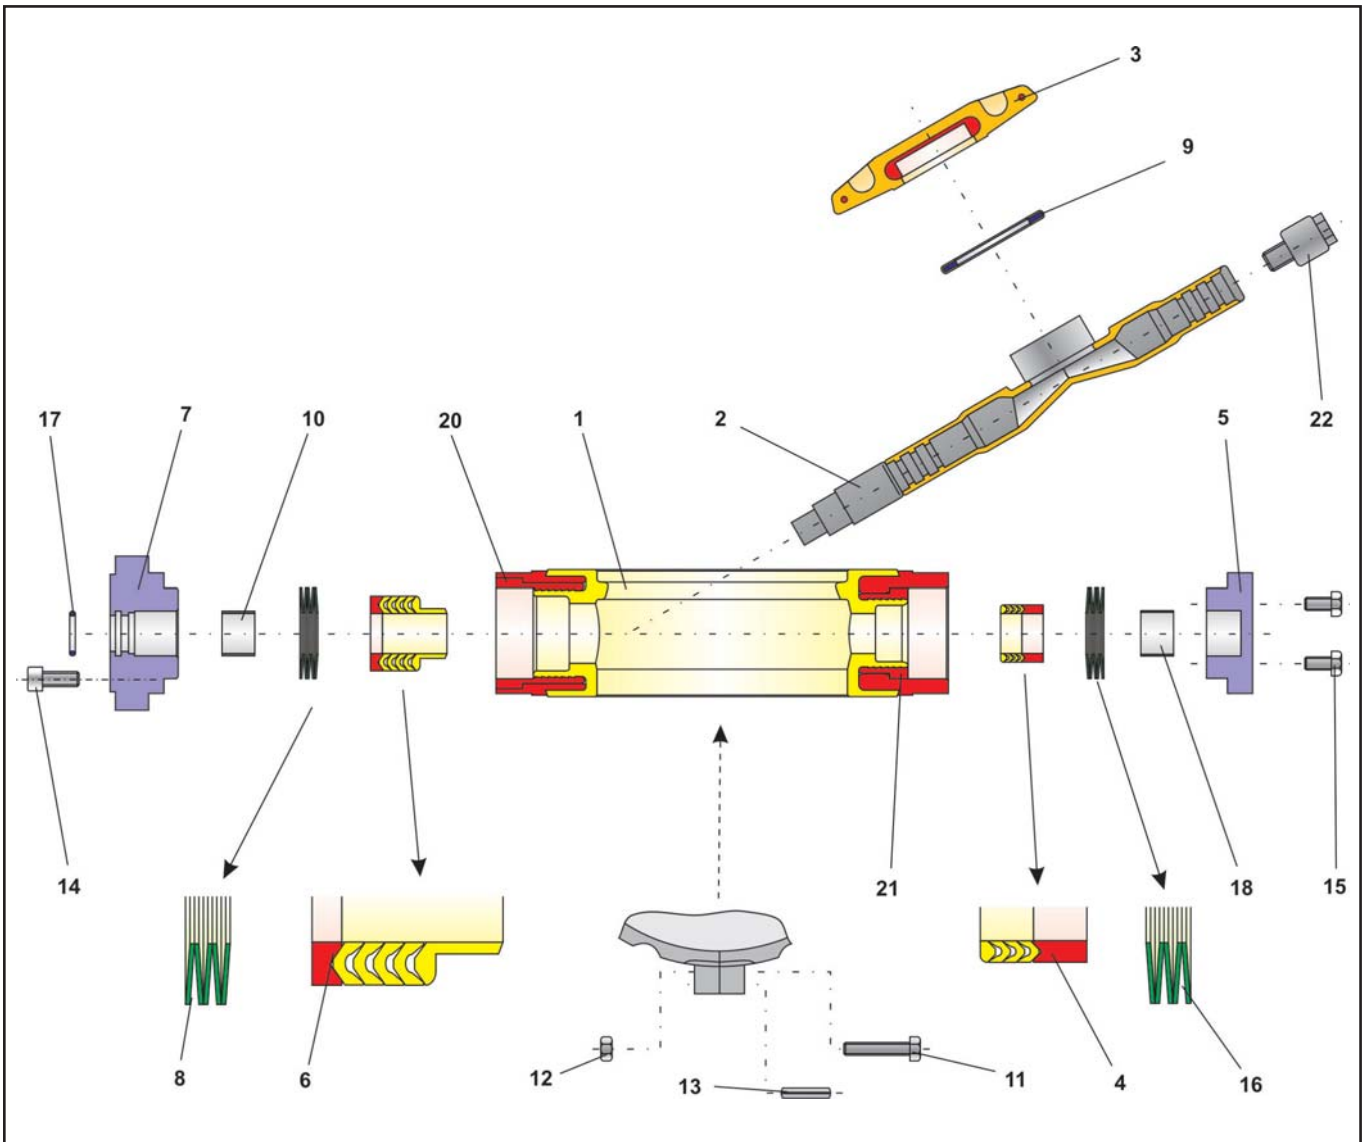

Fig. 3 – Detail drawing of the control butterfly valve Series 10a
Note: The position and arrangement of the individual parts shown in the detail drawing (Fig. 3) are to be observed during assembly.
The PTFE packing (6) is now pushed over the shaft into the body bore and pressed home with an assembly sleeve. The arrangement of the packing is shown in the detail drawing (Fig. 3).
The cup spring assembly (8) is pushed over the shaft and positioned at the appropriate place on the packing. The arrangement of the cup springs is also shown in the detail drawing (Fig.3).
The PTFE packing (4) is now pushed over the shaft into the body bore and pressed home with an assembly sleeve. The arrangement of the packing is shown in the detail drawing (Fig.3).
The cup spring assembly (16) is pushed over the shaft and positioned in the appropriate place on the packing. The arrangement of the cup springs is also shown in the detail drawing (Fig.3).